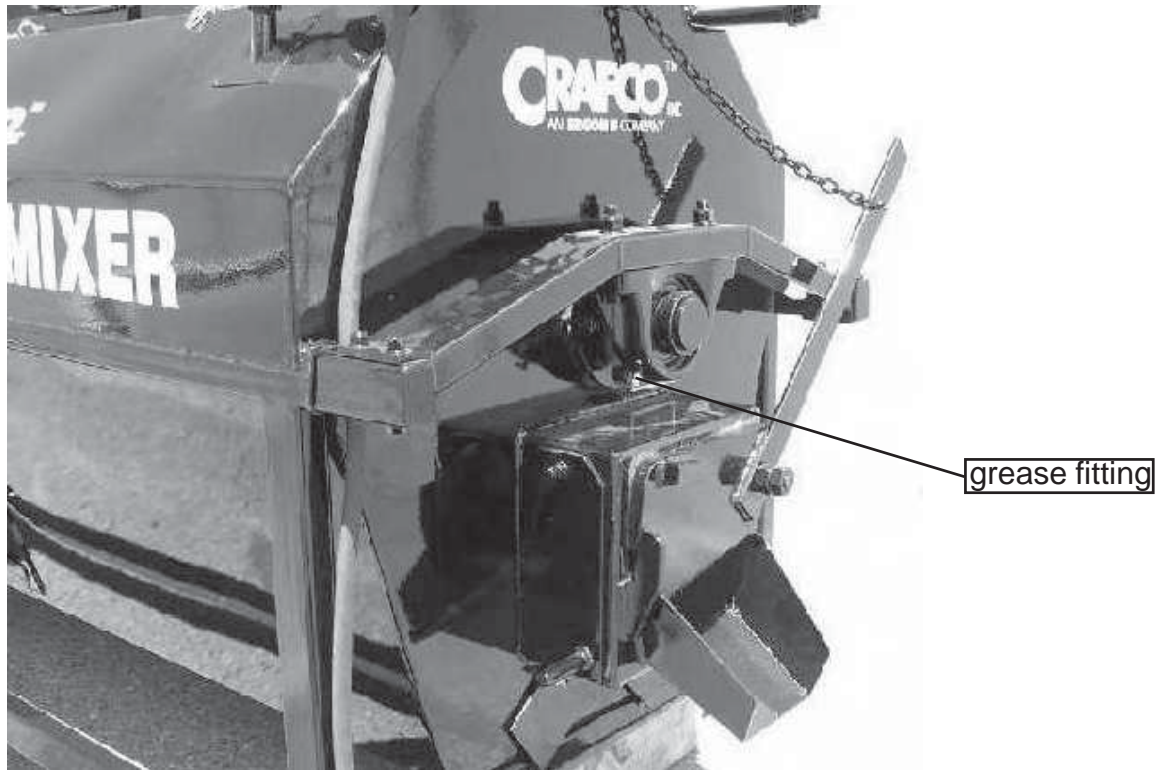

Fig. 1
7. Lubricate mixer bearings daily (see Fig. 1).